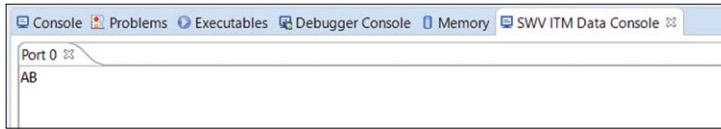

Figure 14.12: Displaying data in the debug window.
- We have now completed the configurations. Single step your program and you should see characters **AB** displayed in the debug window (Figure 14.12).